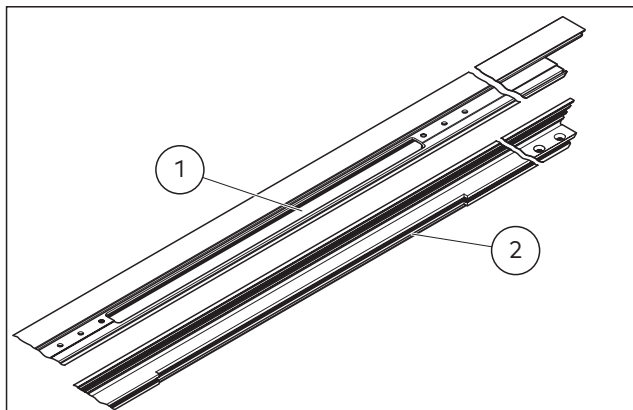

Fig. 39 The milled groove for mounting a slide rail
If a door closer is provided, the fixers are fixed next to the recess in the base profile for the door frame (see Fig. 39).
1. Make sure that the milled groove in the cover profile for the door frame for mounting the slide rail has been prepared in the factory (Fig. 39).